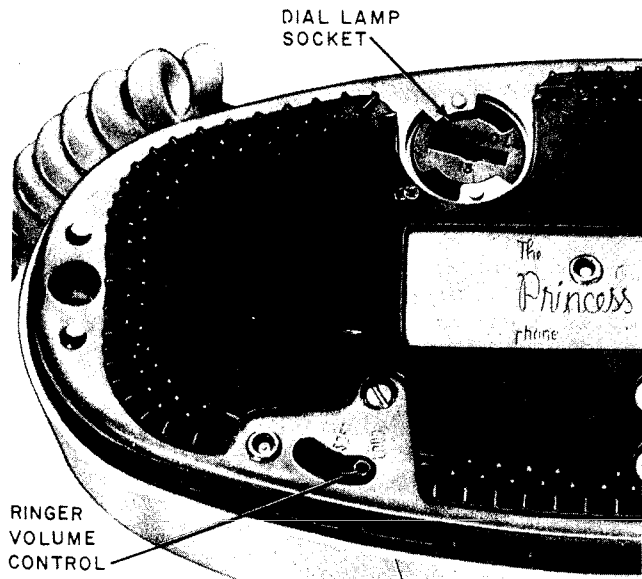

Fig. 5—PRINCESS Telephone Set, Partial Bottom View
- **Ringer volume control:** provides manual control of ringer volume (Fig. 5).